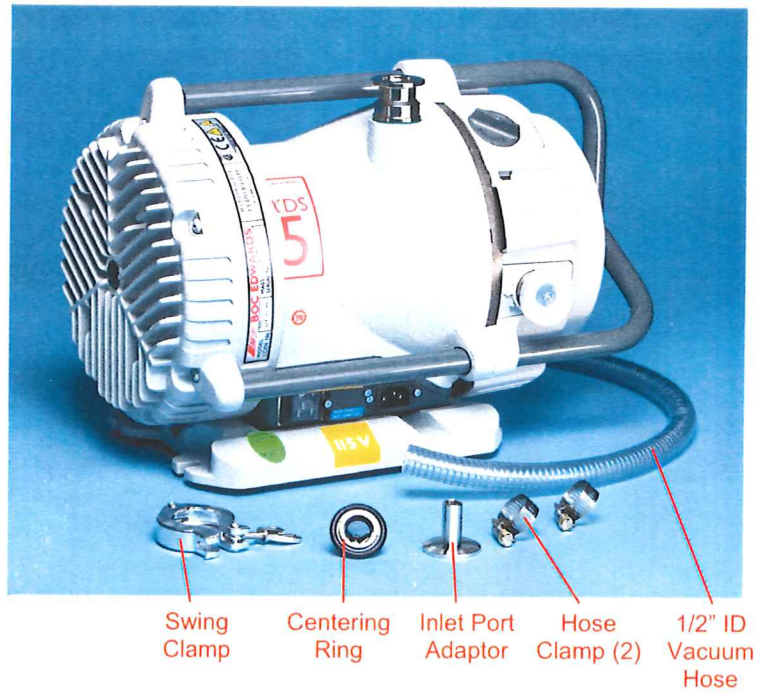

Figure 2 • Example of Vacuum Pump and Accessories
If you have purchased a vacuum pump from Harrick Plasma, your pump should be accompanied by pump oil/fluid (if applicable), as well as a length of 1/2" inner diameter (ID) vacuum hose, hose clamps, inlet port adaptor, swing clamp, and centering ring to connect the pump to the Plasma Cleaner (Figure 2).